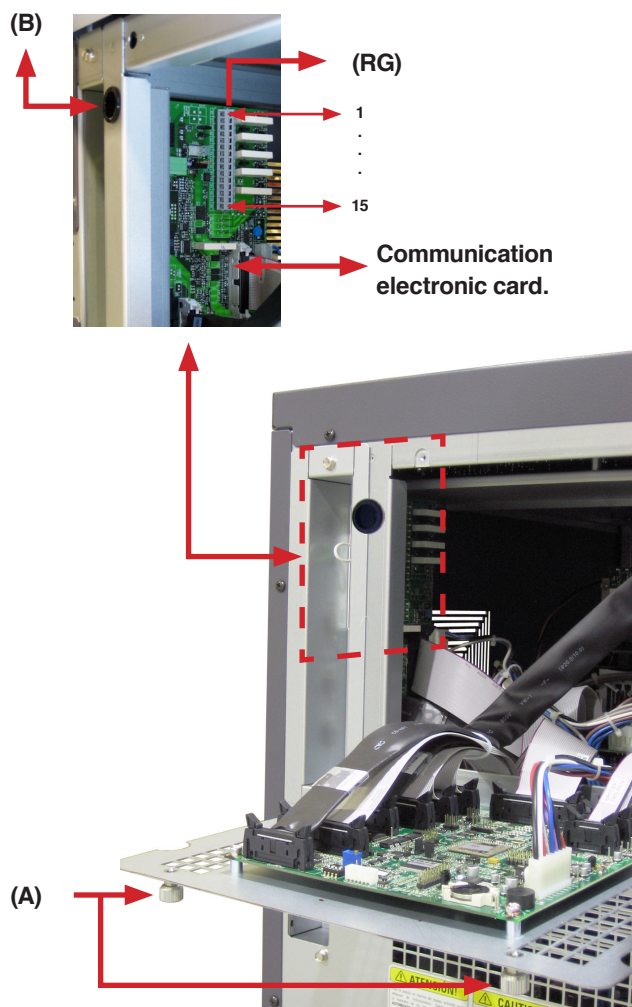

Fig. 2. Location communication electronic board.
- Pull from them to open the hinged protection cover, of the electronic control and drop it till the stopper (see Fig. 2).
- Communication electronic card will be accessible to make the needed connections to the dry contact terminal strip (see Fig 2). Cable trunk will be passed through the cable gland **(B)** previously.